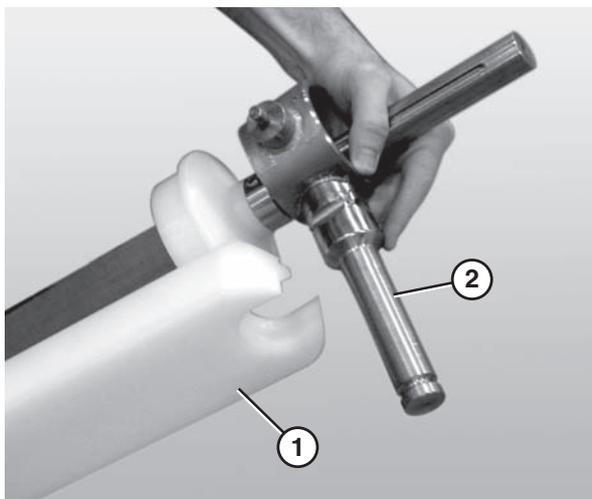

Figure 86
- Attach the guard bar (**Figure 86, item 1**) to the bearing / motor mount bracket shafts (**Figure 86, item 2**).